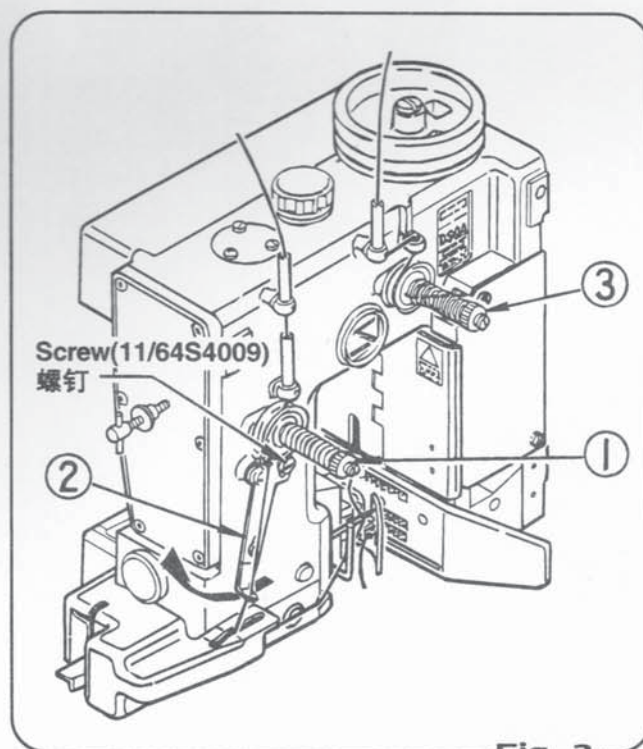

Fig. 3
1. Thread Tension (Figure 3)
Proper thread tension may slightly vary with the type of bag and thread. The norm is given below. Thread tension regulators are mounted so that the tension is uniform for stitch length. To adjust the tightness of seam, adjust ①, ③ in Figure 3.
1. 穿线张紧度调整(图3参照)
线调节是在缝口袋时最重要的项目。请注意。线调节不对可能成为断线、跳针、破袋等的故障原因。由于袋料和缝线种类,线调节(图3-①、③)有些不一样,但原则上按下记指示进行调整。